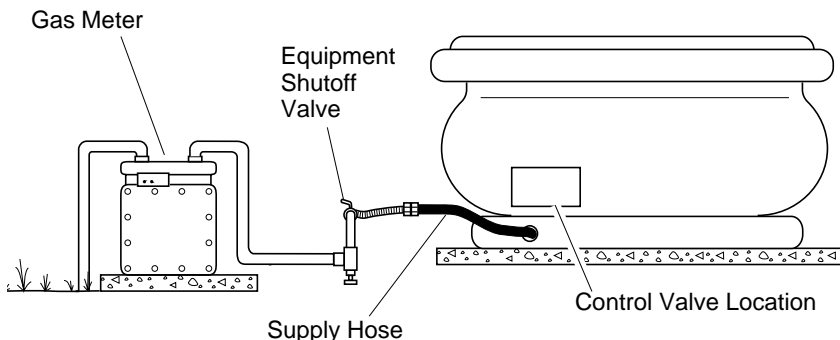

Figure 5 - Checking Gas Joints
3. Check all joints from gas meter to equipment shutoff valve (see Figure 5). Apply mixture of liquid soap and water to gas joints. Bubbles forming show a leak.